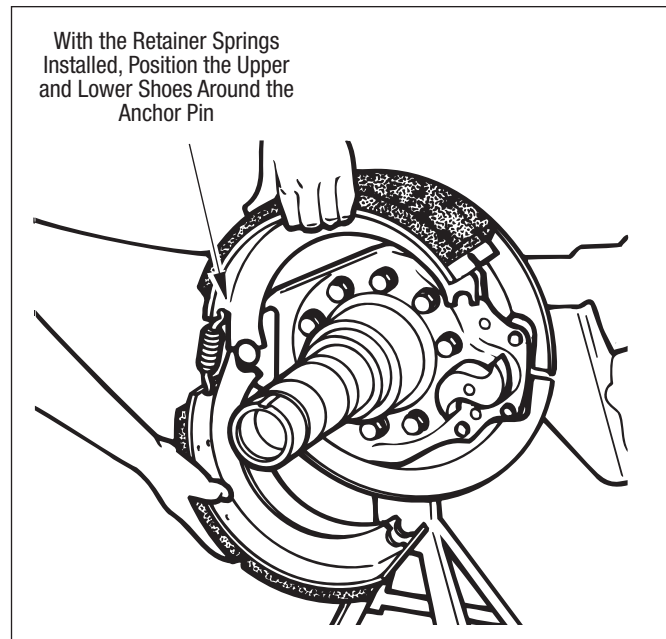

Figure 63 – Upper and Lower Shoe Positioning
4. Position the upper and lower shoes around the anchor pin. Refer to Figure 63.